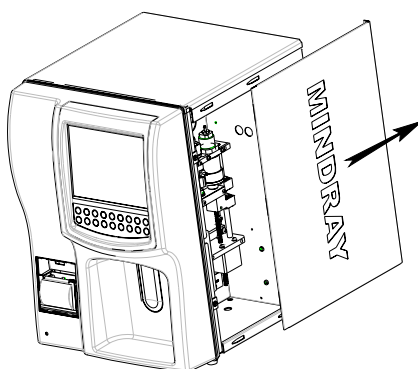

Figure 8-10 Removing right plate
- Follow the arrow shown in Figure 8-10 to push and remove the right plate.